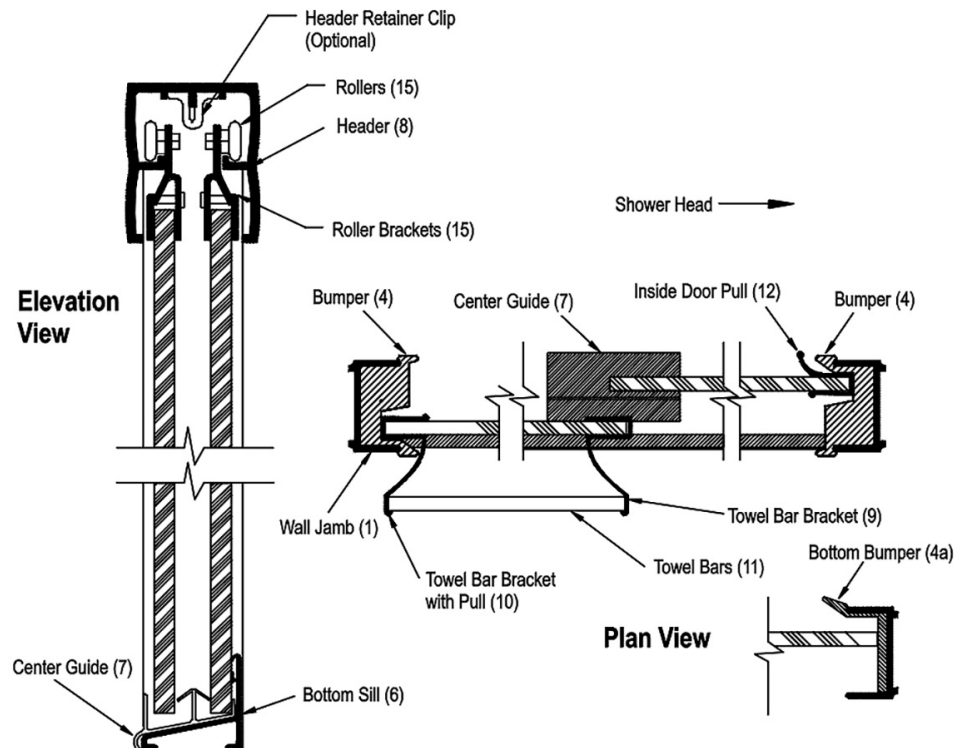

FIGURE 4
9. Set handle vinyl (14) in place over edge of inside glass panel (16) with bottom of bumper on edge facing the wall jamb (1). Tap inside door pull (12) in place. NOTE: Large portion of pull to the inside of slider. This panel should be at the shower head/inside side.
10. Center hole in jamb is slotted to allow adjusting of jamb to compensate for bowed glass. After installing hardware, roll both panels into jamb on one side. If edge of glass hits on edge of jamb, loosen center screw and adjust jamb accordingly. Repeat on opposite side. From INSIDE of unit, drill #31 holes through header and into wall jamb. Secure header to wall jambs with two #6 x 3/8" screws (13).
11. Secure bumpers (4) in place with 6-32 x 1/2" screw (5). NOTE: Glass panels close into the recessed portion of bumpers. The recess is toward the inside of the tub on the shower head jamb, and toward the outside on the other jamb.
12. **IMPORTANT:** After doors have been installed and rollers adjusted, you can now install the **optional** snap in retainers (19) onto the upper center rib inside the header. Slide both doors to one side, starting at the "open" wall, push the retainer into place until the "snap" is heard toward the end. Slide the doors to the opposite side and repeat process starting from the opposite wall. NOTE: One snap retainer will need to be trimmed to fit; retainers will not overlap but need to butt together. Refer to Figure 4 for cut away view of installation.